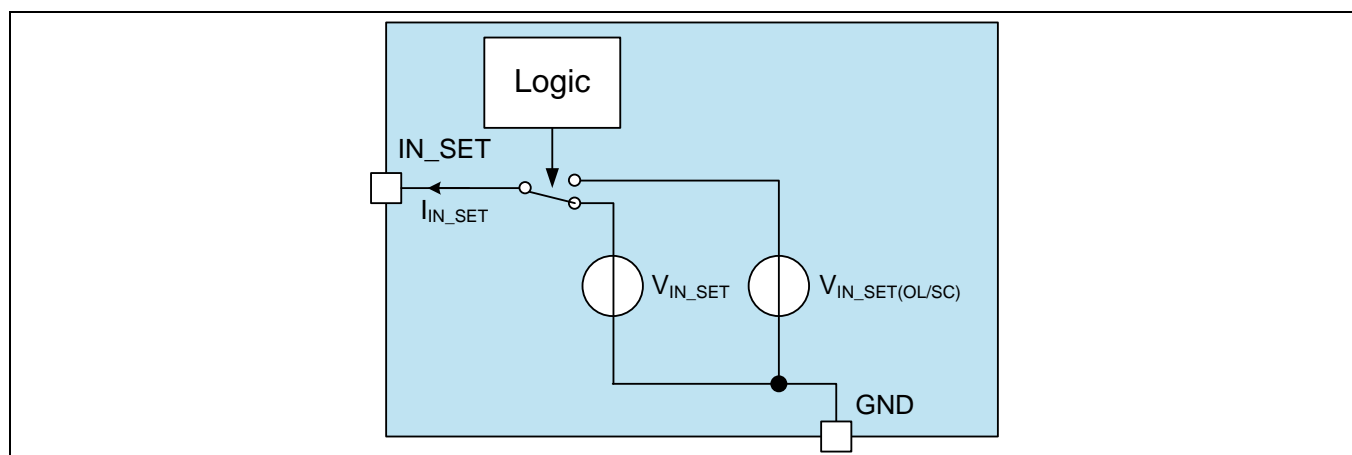

Figure 16 Block Diagram of IN_SET pin for devices with FB pin (TLD1326, 2326)
- For devices with FB (feedback) pin, please see Figure 16 for the block diagram of the IN_SET pin. The 2 states of the IN_SET pin are: